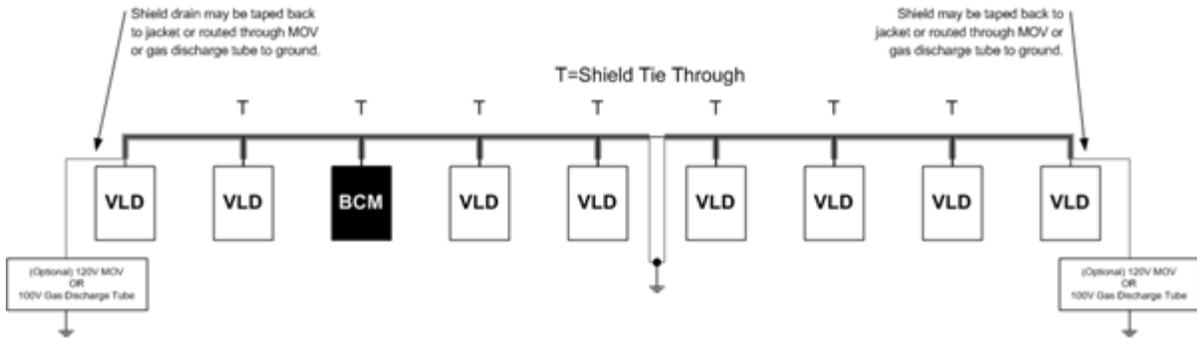

Figure 9 TMS/TP shield drain termination and tie through
- Each MS/TP segment should have a single point of shield ground, preferably as close to the middle of the cabling run as possible (see Figure 9).
- At ungrounded, exposed shield points (the end of a segment), tape back the shield to the wire jacket or, for optimum transient shunting, use 100V gas discharge tubes or 120V MOVs between the shield and ground. See Figure 9.